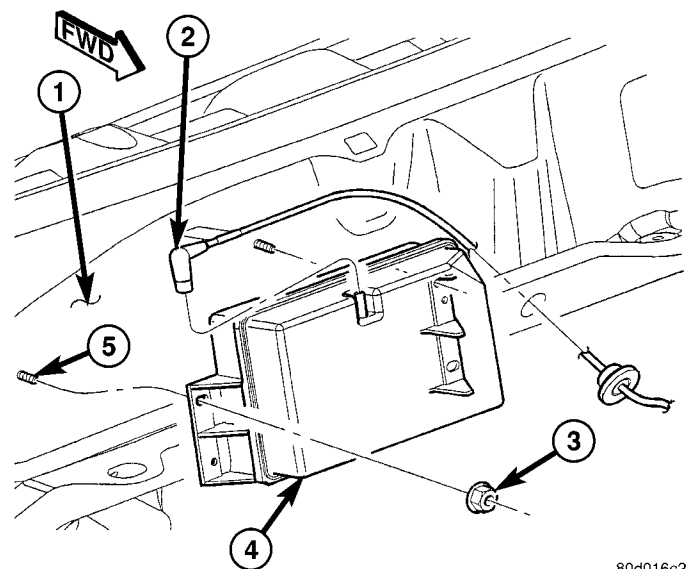

Fig. 13 VACUUM RESERVOIR REMOVAL / INSTALLATION
(1) Remove wiper blades and arms. Refer to Wiper Arm Removal / Installation in the Wipers / Washers section.
(2) Remove fresh air cowl grill. Refer to Cowl Grill Removal / Installation.
(3) Disconnect vacuum line at reservoir (Fig. 13).
(4) Remove 2 reservoir mounting nuts (Fig. 13).
(5) Remove reservoir from cowl.
(1) Position reservoir onto 2 weld studs (Fig. 13).
(2) Install 2 mounting nuts and tighten. Refer to torque specifications.
(3) Connect vacuum line to reservoir fitting.
(4) Install cowl grill. Refer to Cowl Grill Removal / Installation.